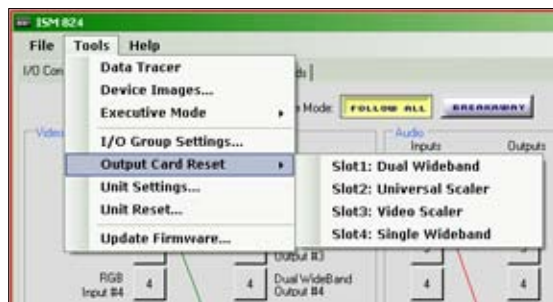

Figure 5-12 — ISM 824 Output Card Reset
- Click on the menu to open a drop down window. This window lists the installed cards (see figure 5-12).